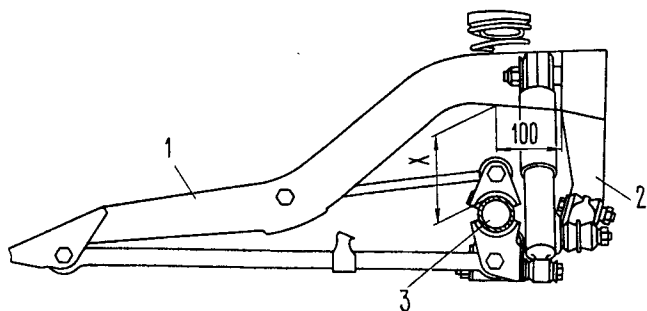

Fig. 4-16. Rear Suspension Installation Diagram:
- load the rear end of the car so that distance "X" from the axle beam to the body sidemember measured at a point located 100 mm from the transverse radius rod bracket (Fig. 4-16) is 152 mm;